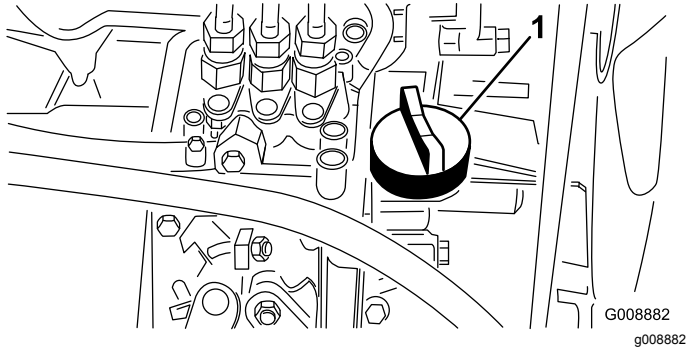

Figure 37
4. If the oil level is low, remove the oil-fill cap (Figure 37) and gradually add small quantities of oil, checking the level frequently, until the level reaches the Full mark on the dipstick.